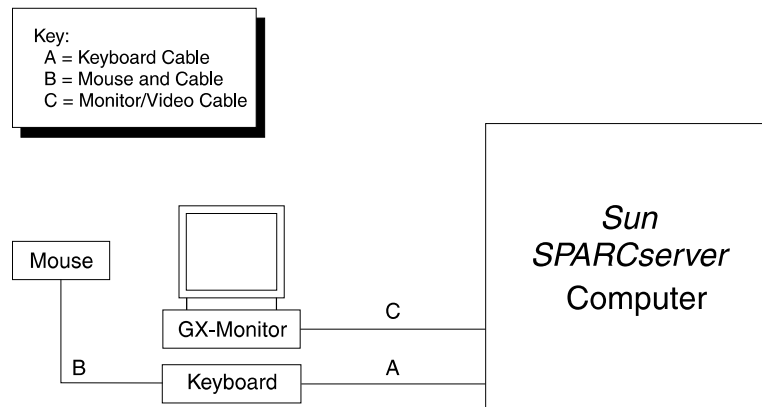

Figure D-40: System Console Connections
To assemble the *Sun SPARCserver* computer and system console, do the following (refer to Figure D-40):
- Connect the following components (see Figure D-40):